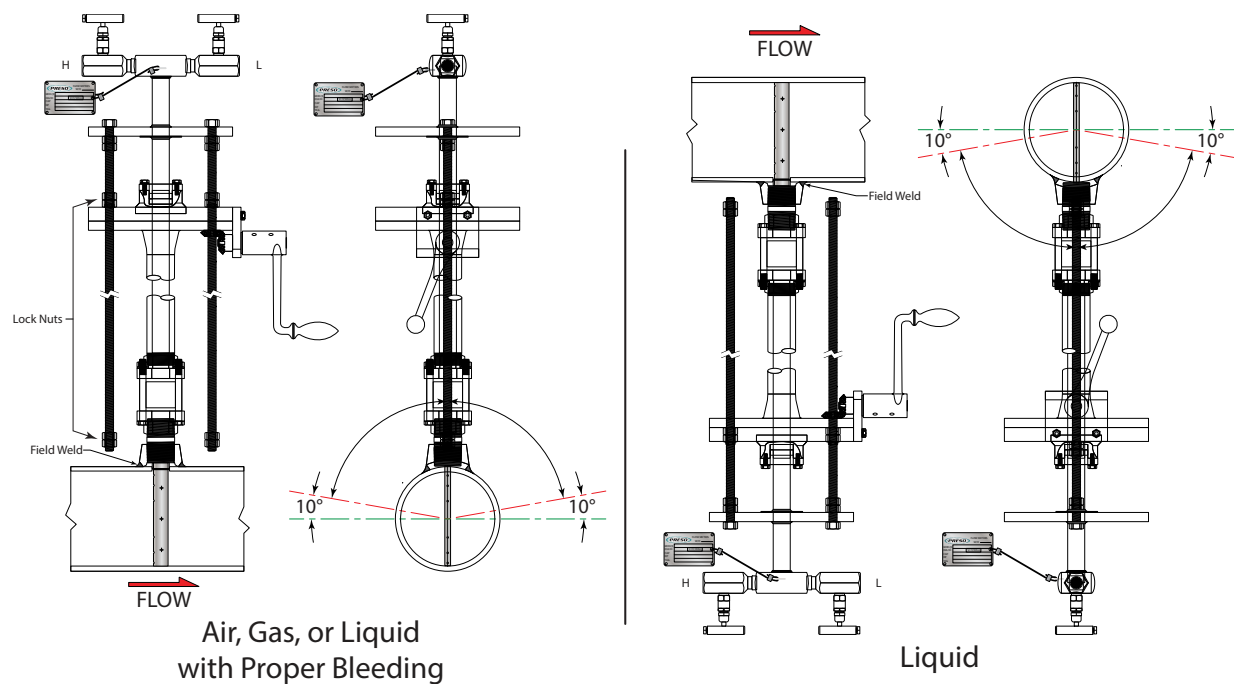
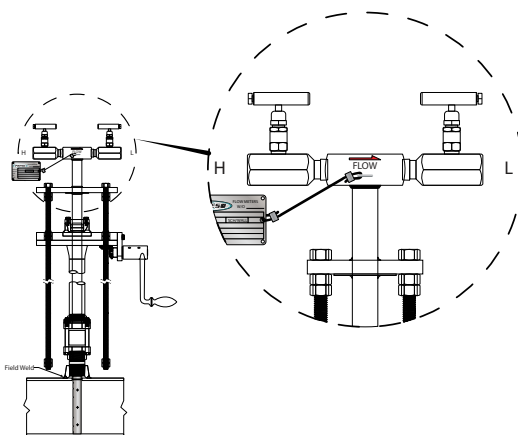
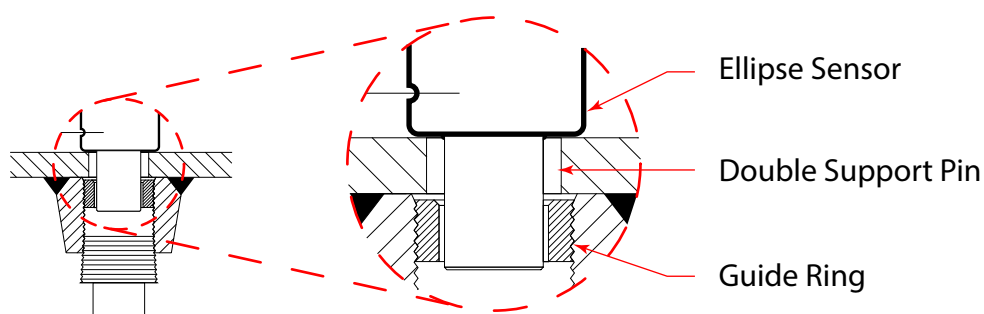
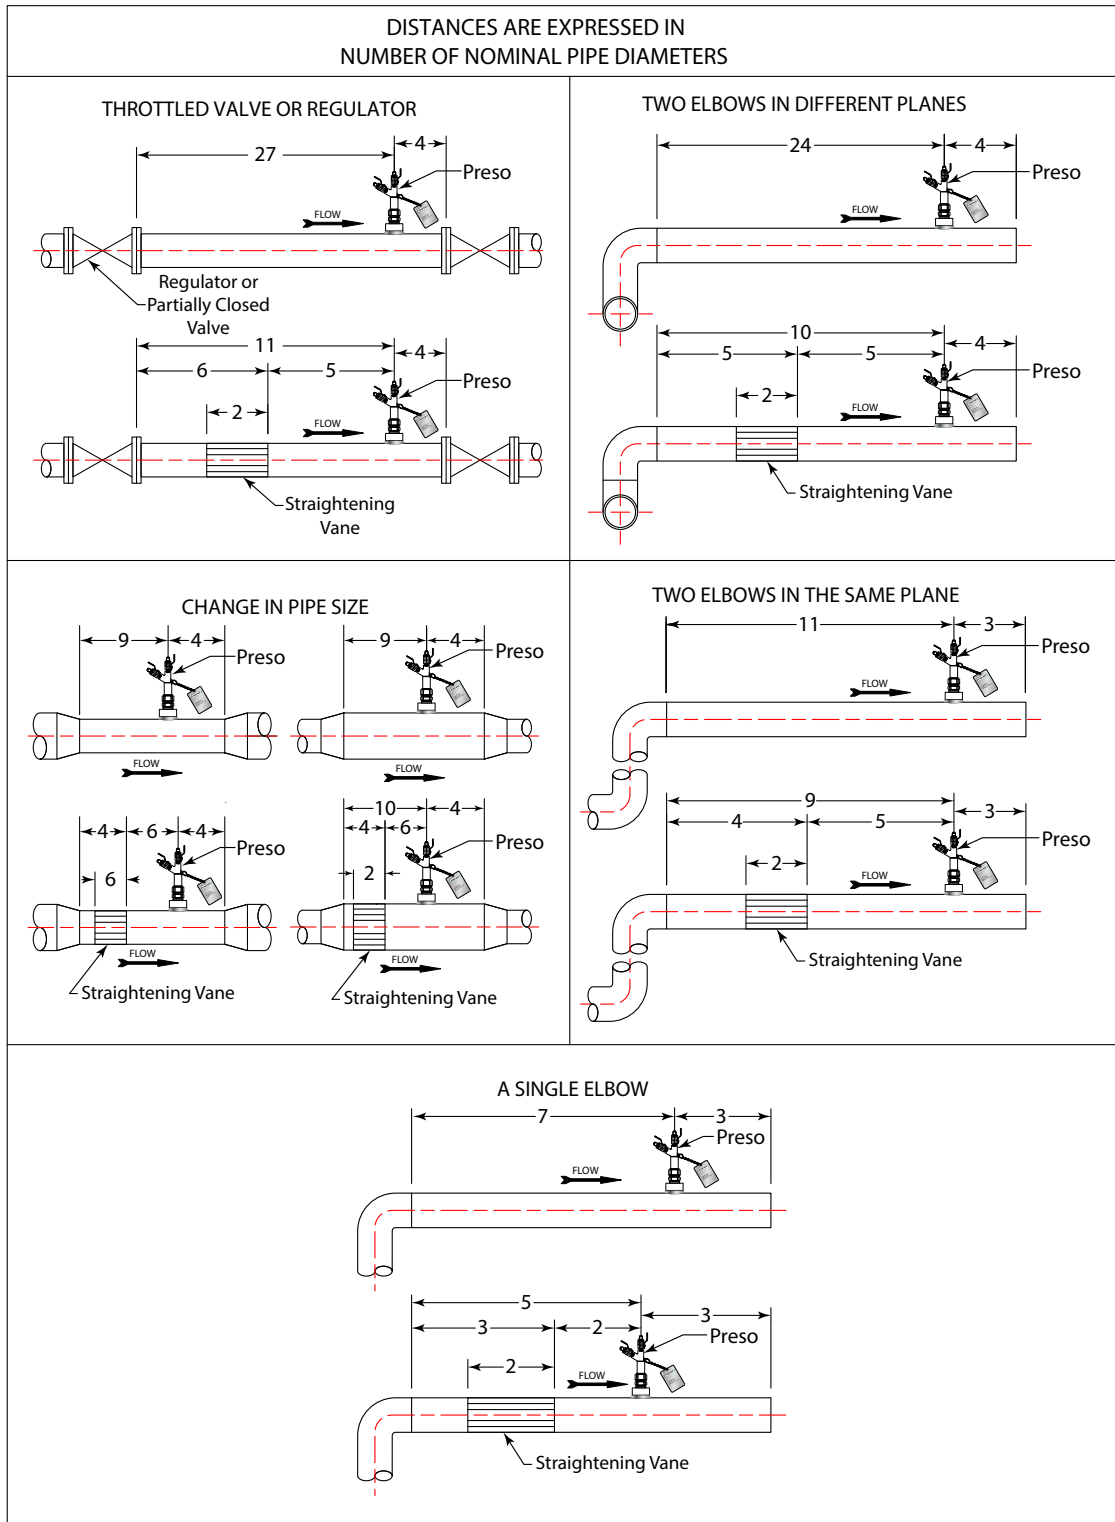

Figure 2: Horizontal pipe installation
Figure 4: Flow indication arrow
Figure 5: Double support installation
Figure 6: Location instructions
1. Choose the proper location to install the AHL-GD Differential Pressure Flow Meter using AGA/ASME standards (or equivalent). Refer to the location diagrams Figure 2, Figure 5 and Figure 6.
7. Install the cage nipple assembly and packing gland with the threaded rods assembly by threading it into the isolating ball valve. Align the arrow on the sensor head with the direction of flow. See Figure 4 and Figure 5.
- Install the AHL-GD Differential Pressure Flow Meter sensor through the two holes. Make sure that the double support pin passes through the guide ring. See Figure 5.
- Align the arrow located on the sensor head in the direction of flow as shown in Figure 4.